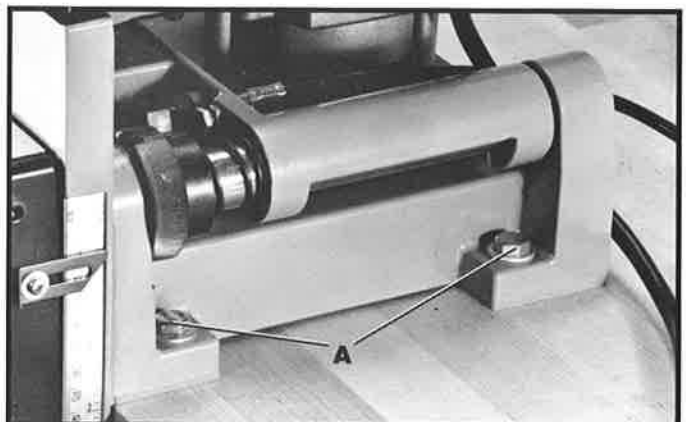

Fig. 18
The plate joiner must always be fastened to a supporting surface using clamps or by using bolts through the four mounting holes in the machine base. Two of the mounting bolts are shown at (A) Fig. 18.